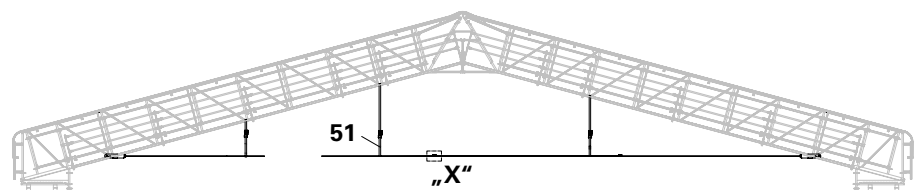

Fig. A8.04b
7. Fix Tension Belt (51) to the freely suspended Tie Rod.
8. Install additional Tie Rods with Tie Rod Extension (52) according to the span, as described in steps 1 to 4. (Fig. A8.04b)